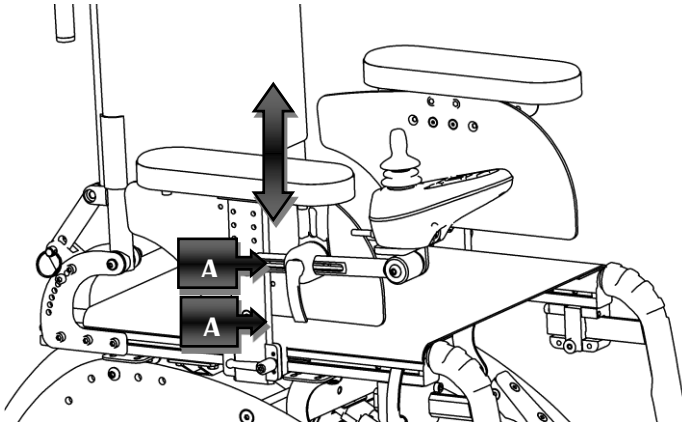

Figure 7
Seeing Figure 7, loosen the screws (A), and set armrests height to desired value and retighten the screws (A).